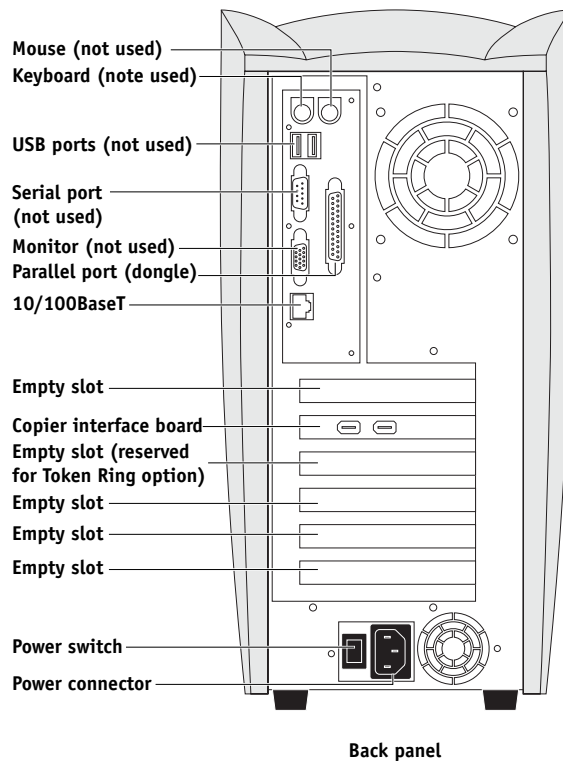

FIGURE 5-2 Back panel of the Pi8500Pro
- All interface cables to the system are plugged into the proper connectors on the back panel of the Pi8500Pro (see Figure 5-2).